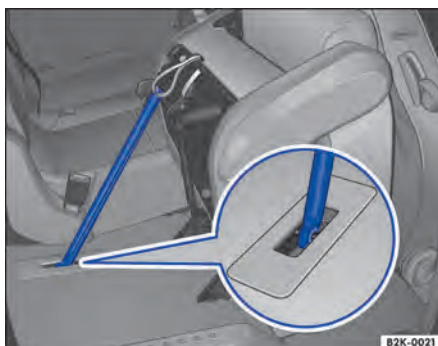

Fig. 72 Second row of seats: secure the seat folded forward with the rod.
3. Release the securing rod from the bracket and push the rod firmly into the seat anchoring until the securing rod engages → Fig. 72.